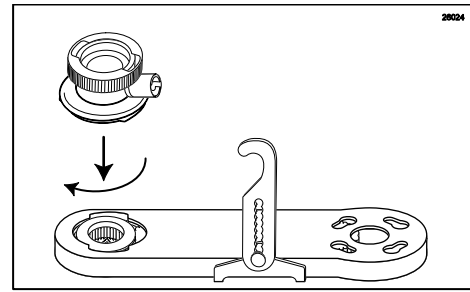

Figure 130
2. Install the Injector Head onto the Drive Assembly Gear Box and rotate off-center to secure. (See Figure 130.)